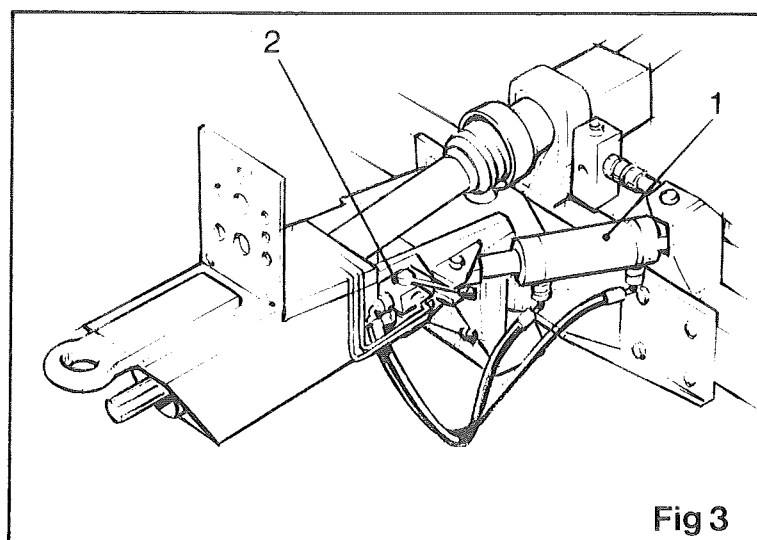
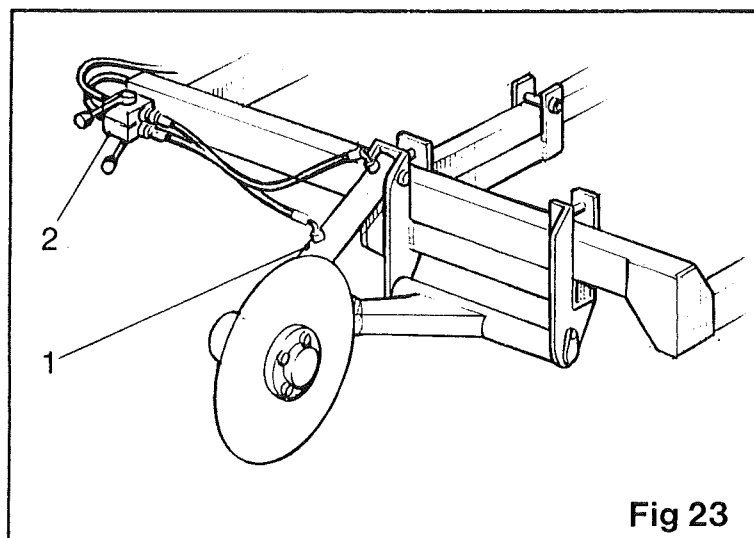

Fig 3
Fig 23
The adjustable drawbar is fixed to the machine by a pivot pin, thus enabling the drawbar to pivot. This provides easy manoeuvrability of the harvester to align it with the crop, also assisting when harvesting on hillsides. Adjustment to the drawbar is made by a double acting hydraulic ram (item 1 fig 3) which is fitted to the tractor external hydraulics. On some machines a diverter valve (item 2 fig 3) or (item 2 fig 23) is fitted to divert the oil to either the drawbar or another function of the machine such as the discharge elevator or stabilizer. Therefore the diverter valve must be set to divert the oil to the drawbar before the ram can be actuated.
On some machines a diverter valve (item 2 fig 3) or (item 2 fig 23) is fitted to divert the oil to either the discharge elevator or another function on the machine, such as the stabilizer disc or drawbar. Therefore the diverter valve must be set to divert the oil to the discharge elevator before the ram can be actuated.
A stabilizer kit is offered as an option to assist with hillside work. Once the machine is in work the stabilizer disc can be lowered by actuating a hydraulic ram (item 1 fig 23) from the external tractor hydraulics. On some machines a diverter valve (item 2 fig 23) is fitted to divert the oil to either the discharge elevator or stabilizer disc. Therefore this valve must be set so the oil will flow to the stabilizer disc before the ram can be actuated.